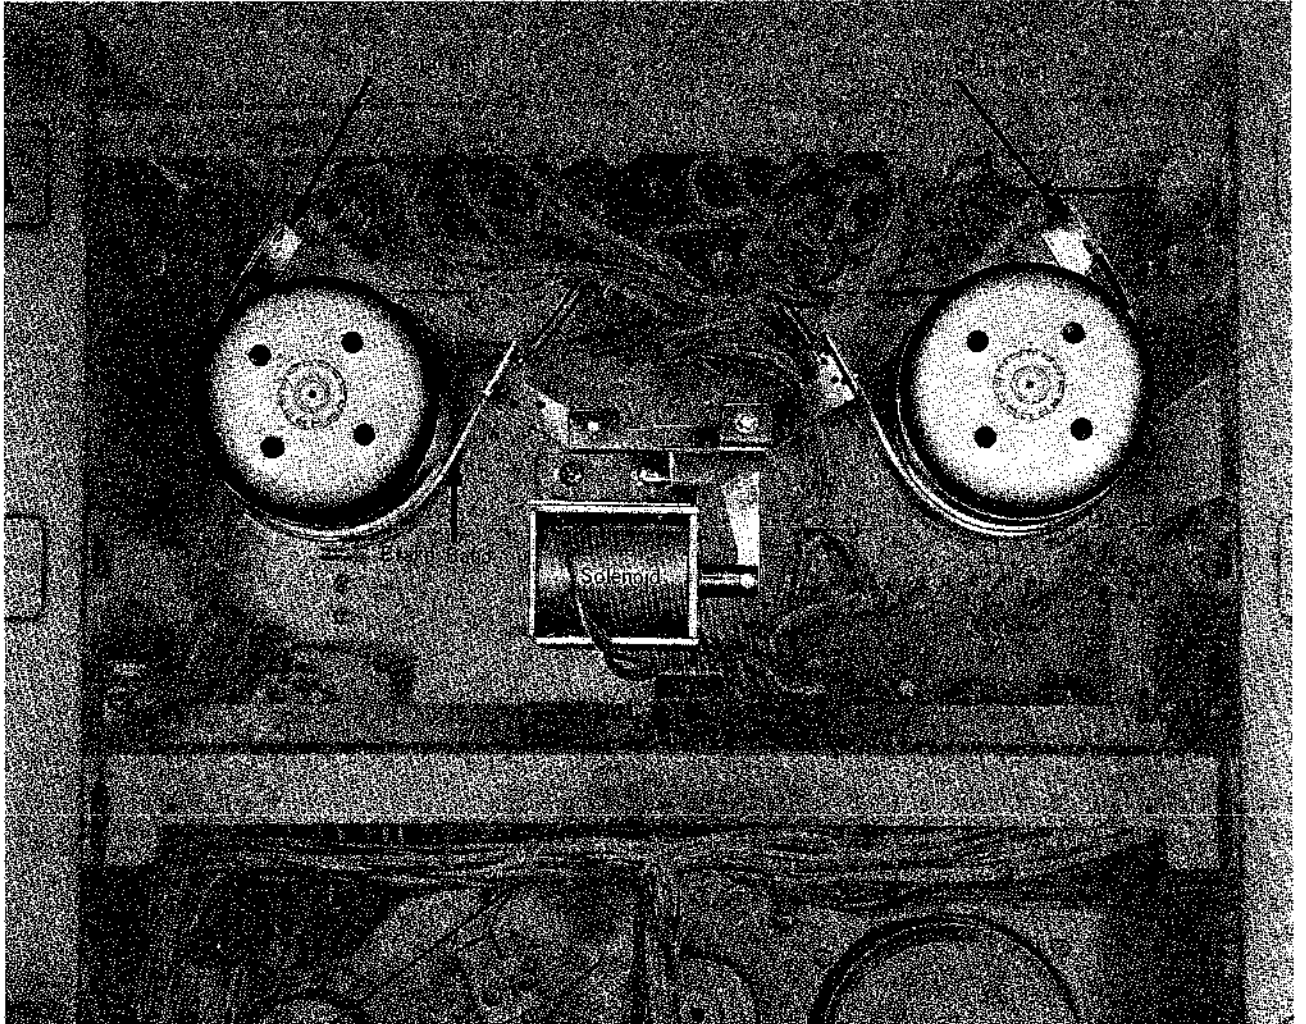

Fig. 4
- (b) Brake Tension Adjustment can be made by loosening the holding screws on Brake Brackets shown in Fig. 4 (re-positions brake bracket).